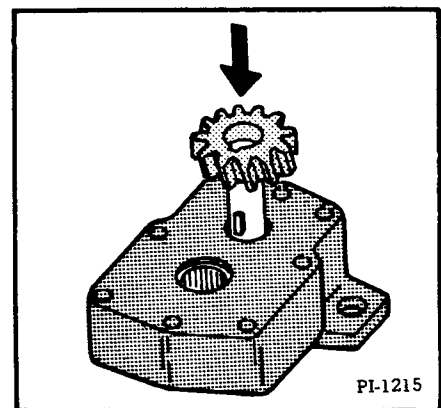

Fig. 32 Installing Drive Gear
- (1) Carefully clean up the bench area to be used.
- (2) Wash all pump parts with solvent and dry them with air.
- (3) Assemble the ball bearing to the pump drive shaft, insert assembly into the body and install the pilot plate and seal according to steps 4, 5 and 6 under Hydraulic Pump Seal Replacement (Webster Pump).
- (4) Set the pump body with the ground face upward.
- (5) Place a key in the drive shaft and lower the drive gear over it (Fig. 32) making sure the key enters the gear properly.